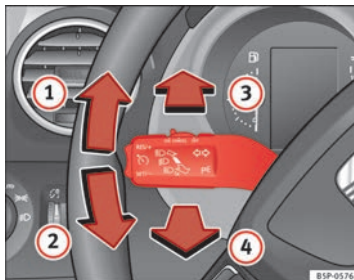

Fig. 76 Turn signal and main beam headlight lever
- Move the lever all the way up \Rightarrow fig. 76 ① to indicate **right**, and all the way down ② to indicate **left**. ▶
- If the dipped lights are on, push the lever forward \Rightarrow fig. 76 **3** to switch on the main beam.
- Push the lever towards the steering wheel \Rightarrow fig. 76 **4** to switch off the main beam.